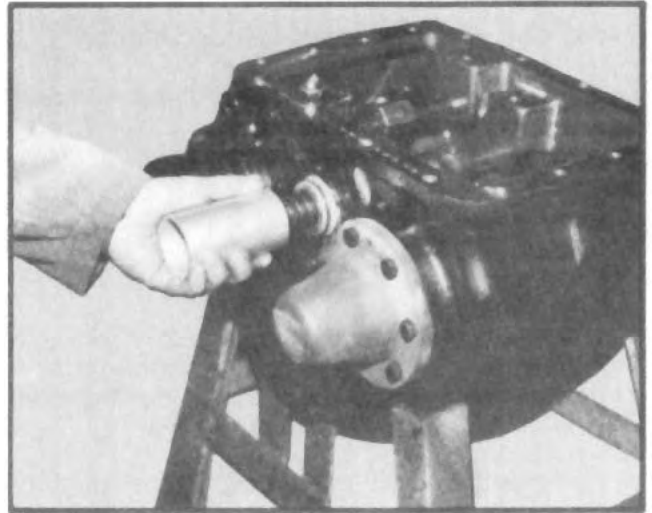

Fig. 2
5. Remove shift cylinder tube from the shift cylinder adapter tube located in the housing, exposing piston (See fig. 2).